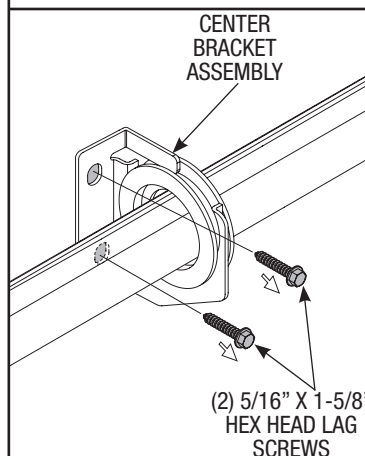

Fig. 8
**Step 8:** Remove the two (2) lag bolts attaching the center bracket assembly to the header board (Fig. 8).